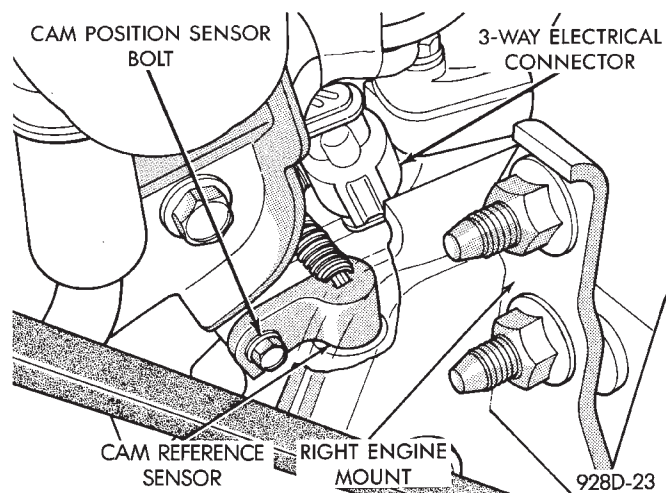

Fig. 13 Camshaft Sensor Location—3.3L and 3.8L Engine
(1) Disconnect camshaft reference sensor electrical connector from the wiring harness connector (Fig. 13).